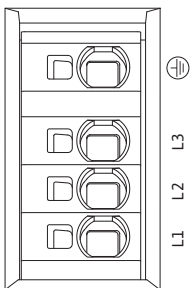

Fig. 27: Power terminals (mains connection terminals)
- Power terminals (mains connection terminals) (Fig. 27).